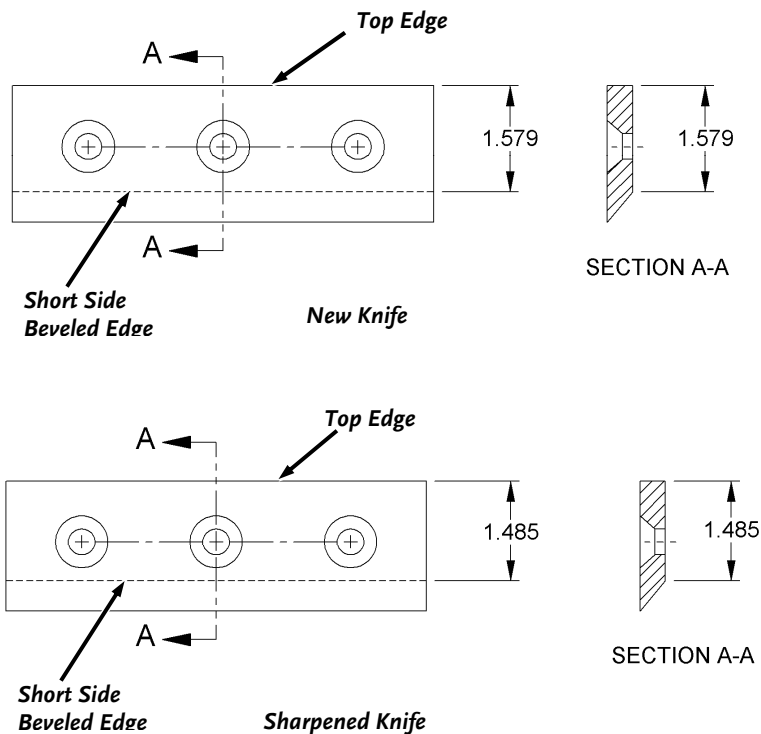

Figure 44
- A new Chipper Knife has 1.579" measurement between the short side bevel edge and the Knife Top Edge (**Figure 44 "New Knife"**).
- Once this measurement is below 1.485" (**Figure 44 "Sharpened Knife"**), or if you are unable to remove dents or gouges with these guidelines, replace the Knife.